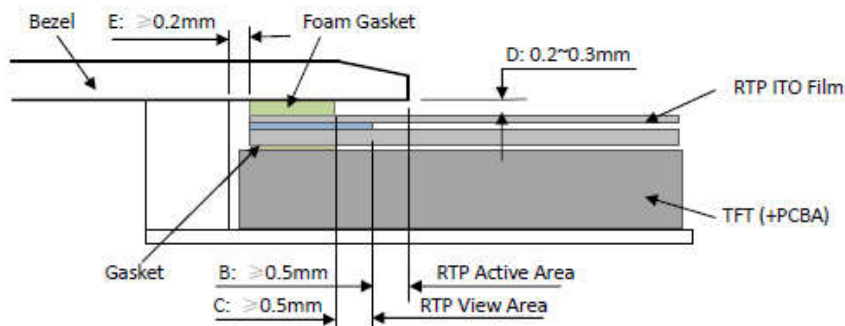

Figure 4
- It should bezel touching the RTP Active Area (A.A.) to prevent abnormal touch.It should left gab $D=0.2\sim 0.3\text{mm}$ in between. (Figure 4)
- Outer bezel design should take care about the area outside the A.A. Those areas contain circuit wires which is having different thickness. Touching those areas could de-form the ITO film. As a result bezel the ITO film be damaged and shorten its lifetime. It is suggested to protect those areas with gasket (between the bezel and RTP).The suggested figures are $B\geq 0.50\text{mm}$; $C\geq 0.50\text{mm}$. (Figure 4)
- The bezel side wall should keep space $E= 0.2 \sim 0.3\text{mm}$ from the RTP. (Figure 4)
- 为避免面框直接压在动作区 (A. A.) 上造成误动作，面框与电阻触摸屏 (RTP) 之间应留有一定的空隙 $D=0.2\sim 0.3\text{mm}$ 之间。(附图 4)
- 设计面框时，要注意用面框保护触摸屏四周的非保证操作区域，因为布线区域在此处形成一台阶，在此区域附近操作时 ITO Film 变形较大，容易导致 ITO 损坏而降低寿命。为保护 RTP 和避免误操作，在 RTP 与面框之间垫缓冲物 (Gasket)，我们建议设计面框应覆盖动作区的边缘，面框边缘到 V. A. 区的距离 $B\geq 0.50\text{mm}$ ；垫圈内边缘到 V. A. 区的距离 $C\geq 0.50\text{mm}$ 。(附图 4)
- 在设计面框与 RTP 组装时，应考虑到面框内侧与 RTP 外侧的间距 $E\geq 0.2\text{mm}$ 。(附图 4)